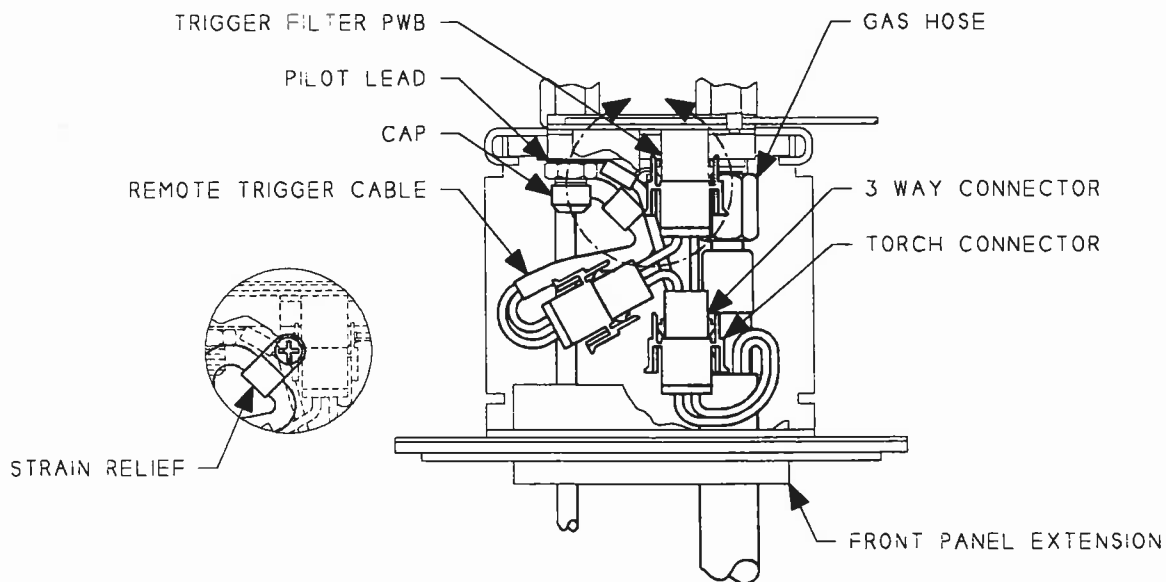

Figure 22 - PlasmaPlus Machine Torch Installation
Refer to Figure 22, "PlasmaPLUS Machine Torch Installation".
- C) Feed the remote trigger cable connector through the boot, or left side opening. Place the strain relief onto the cable about one inch from the connector on the end of the cable. Use the door stop screw to secure the strain relief as shown in the close up of Figure 22.